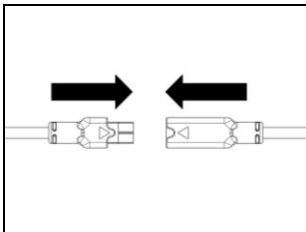

Fig. 31
- Connect the battery to the cable in the direction indicated by the arrows (Fig. 31).